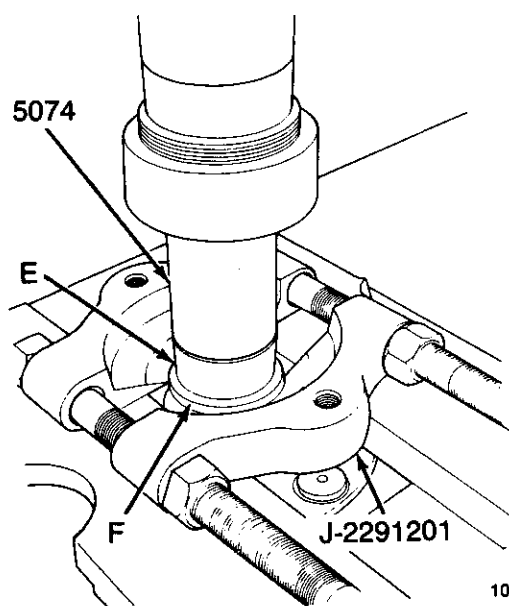

Fig. 7
- Press the hub (E) out of the inner bearing (F) with press pin 5074 (Fig. 7).